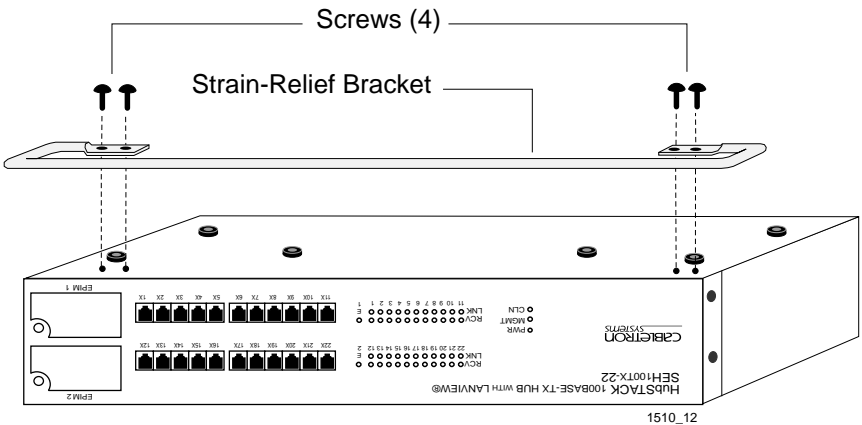

Figure 4-2 Attaching the Strain-Relief Bracket
2. Attach the strain-relief bracket to the bottom of the SEH (Figure 4-2).